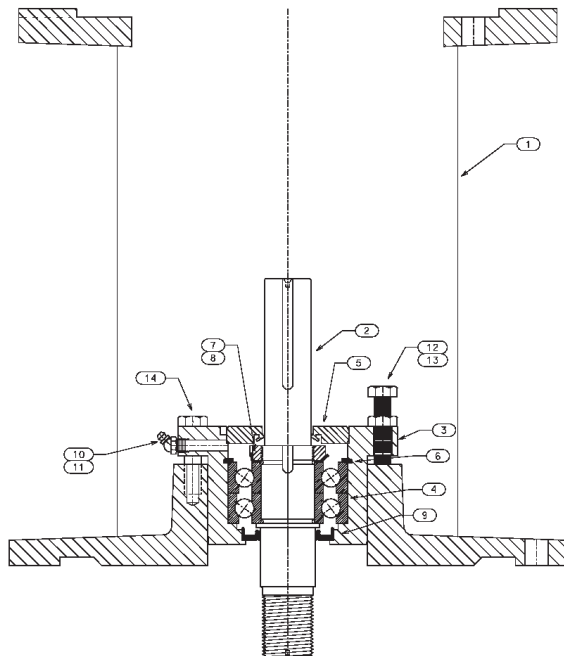

Figure 18 - Grease Lubricated Thrust Pot
- Using the lifting lugs on the motor, carefully lower the motor onto the motor stand of the thrust pot (See Figure 18) and align the bolt holes.
NOTE: Be sure the relief fitting (#11 in Figure 18) is clear of paint or any other obstructive material. Otherwise it will cause premature failure of the thrust pot and is not covered under warranty.